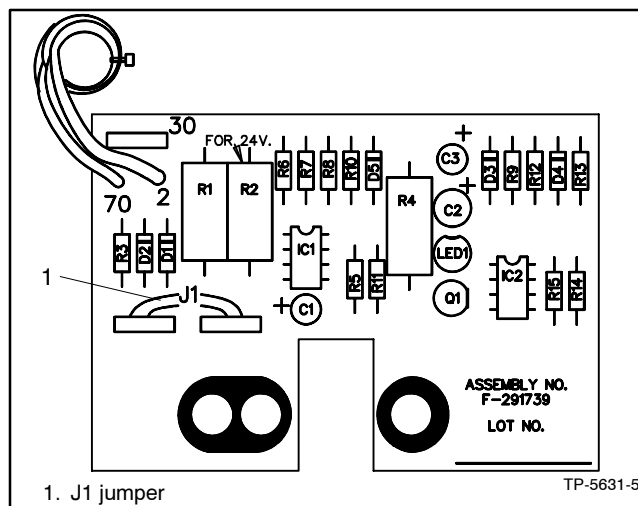

Figure 7-9 Overvoltage Circuit Board
5. Place the J1 jumper on the overvoltage circuit board if connecting the generator set for 139/240 or 277/480 volts (3-phase, 4-wire, 60 Hz) and if the generator set has the overvoltage kit. See Figure 7-9 for J1 jumper location on the overvoltage circuit board. For all other voltages, remove J1 jumper from the overvoltage circuit board.